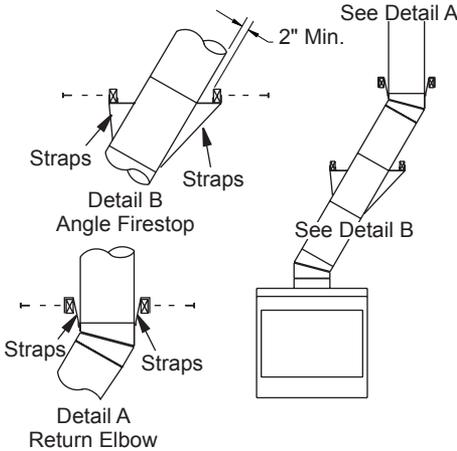

Figure 8 - Ceiling Support Pipe 12S-8DM
2. Chimney weight above offset rests on return elbow. Straps must be securely nailed to rafters or joists (see Figure 8, details A and B on page 8).